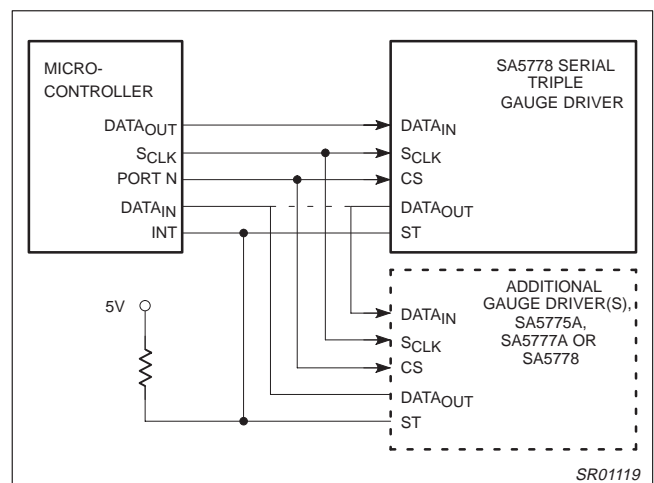

Figure 4. Serial Communications Between STGD, Microcontroller and Other Gauge Drivers
Figure 4 demonstrates the connections between the STGD, the microcontroller, and optionally additional gauge drivers such as the SGD and DGD. With an active high on the chip select input (CS), data is shifted into the STGD through DATA_{IN} on the rising edge of S_{CLK}. Several gauge drivers may be wired in series using a common chip select and clock line, when more than three gauges are needed. The DATA_{OUT} pins are cascaded to the DATA_{IN} pins of the following gauge drivers. Status information can be returned to the microcontroller via the ST pins of each gauge driver. These are open-drain, active low outputs, which may be wire OR'ed together to signal that a fault, such as a thermal shut down, has occurred within one of the gauge drivers. This pin may be connected to a microcontroller port pin for polling in software, or may be connected to an external interrupt input to cause entry into an interrupt service routine. The STGD, may also pass status information back to the microcontroller serially. The rising edge of chip select loads status information into the shift register for the first four bits that will be shifted out of the STGD by the shift clock. Figure 11 shows the data bits within the shift register. A low on the ST pin signals that one or more status bits have been set in the status register. A high indicates all status bits are reset. The status output bits include minor gauge over current, major gauge over current, thermal shutdown and RUN. Gauge data is captured in latches by the falling edge of the chip select.